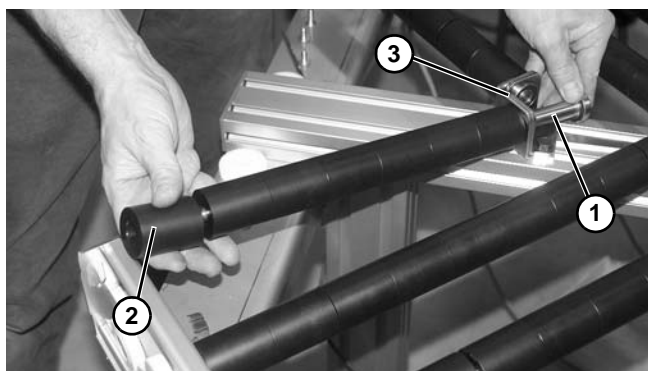

Figure 67
11. Slightly pull roller shaft (**Figure 67, item 1**) out and remove rollers (**Figure 67, item 2**) as you pull shaft further outward from corner bracket (**Figure 67, item 3**).